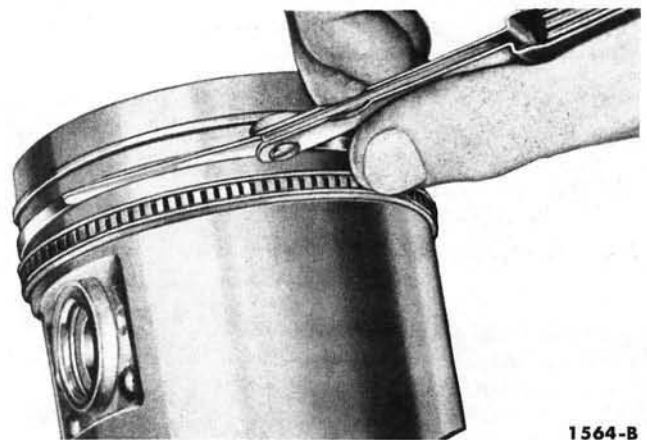

FIG. 42—Piston Ring Side Clearance
3. Check the ring side clearance of the compression rings with a feeler gauge inserted between the ring and its lower land (Fig. 42). The gauge should slide freely around the entire ring circumference without binding.